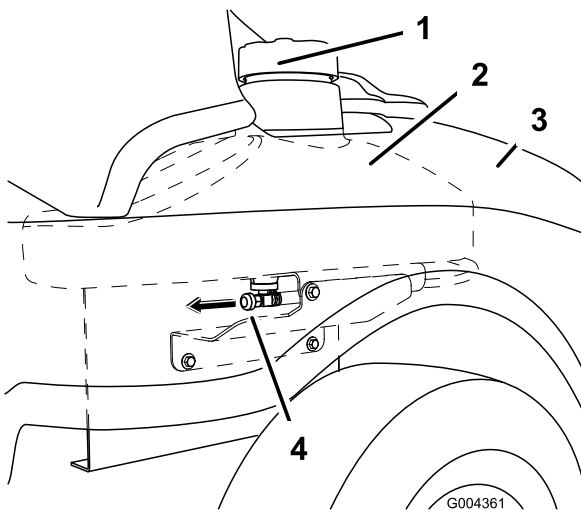

Figure 40
3. Close the fuel shut-off valve located under the front of the fuel tank (Figure 40).
7. Open the fuel shut-off valve. Allow fuel to drain into a gas can or drain pan (Figure 40).